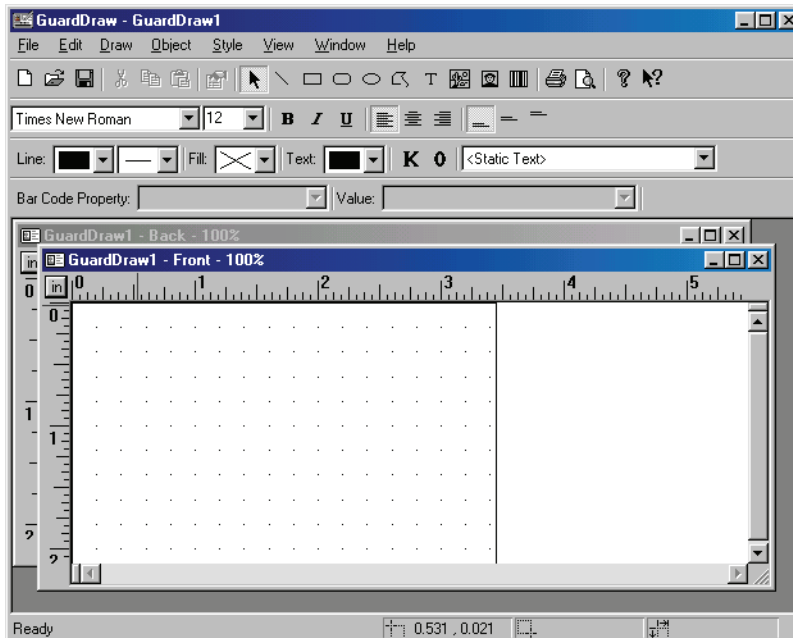

Figure 9-4: Blank Badge Template
1. Continuing from Step 4 above, click the File ⇒ New pull-down menu option. This opens a new, blank badge template (see Figure 9-4).